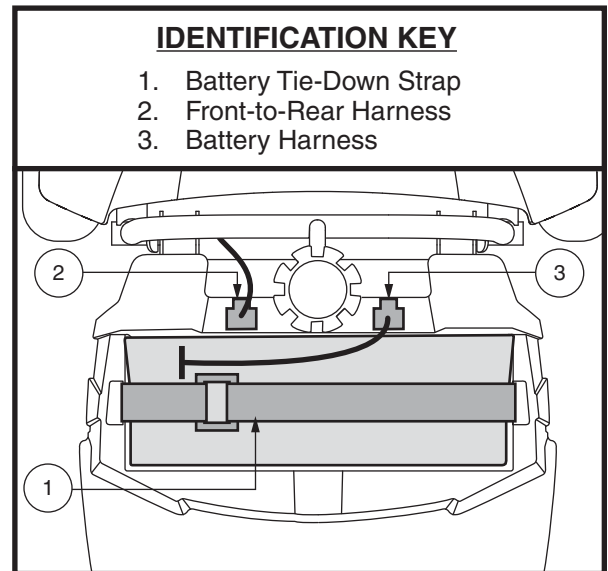

Figure 21. Battery Tie-down Strap
1. Disconnect the battery harness and remove the battery pack from the Travel Scooter. See figure 21.
See figure 21.